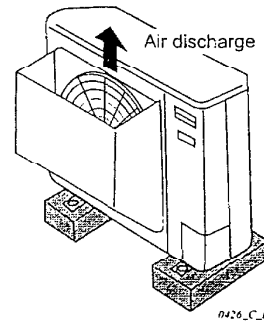

Fig. 5
- the air-discharge outlet is facing the sidewalk and discharged hot air can annoy the passers-by. Refer to Fig. 5.